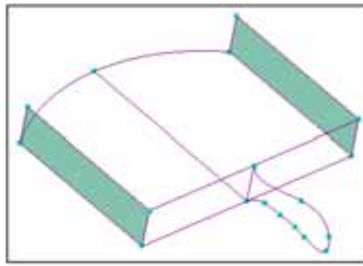

Figure 60: Bottom split
- It should appear as indicated in Figure 60.